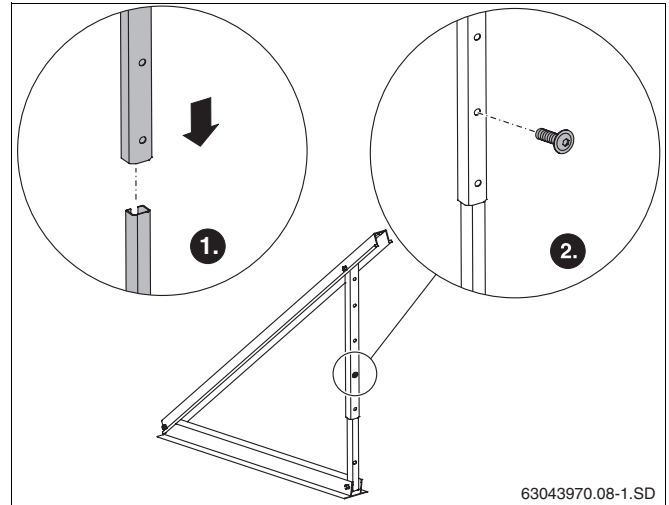

Fig. 11 Connecting telescopic rails
- Insert telescopic rails into each other and fasten with M8 × 20 screw (Fig. 11).